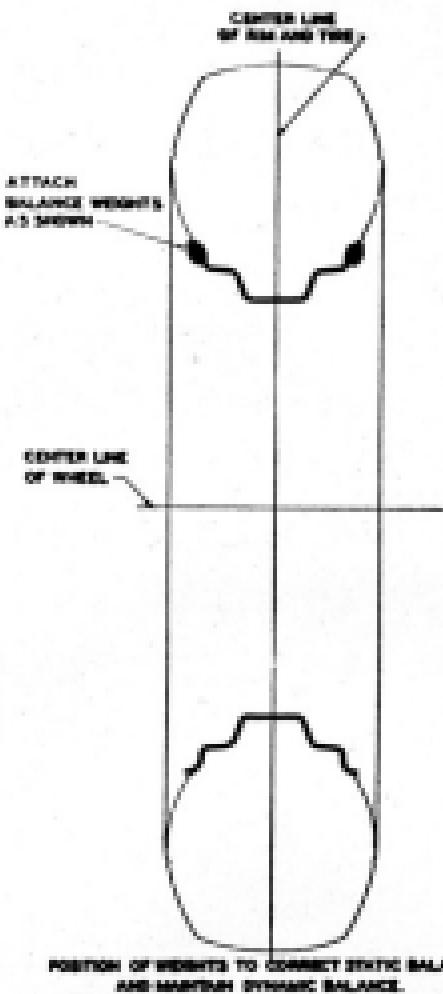

Fig. 563. Placing Weights for Static Wheel Balance
1. Where the wheel is dynamically balanced, and weight must be added to put the wheel in static balance. The proper positioning of weights in this case is shown in Fig. 563.
Fig. 563 shows how the weights should be placed on the rim of the wheel to maintain dynamic balance when it is necessary to add weight for static balance, providing the wheel was in dynamic balance before static balance was attempted. Note in this case, that half the weight required for static balance is placed on one side of the rim and the other half on the opposite side of the rim. In this way, the wheel has been put in static balance and dynamic balance has not been affected.